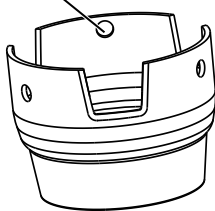

Figure 1
1. Reinstall the OEM center louver into the dash opening (See Photo 1, below). Install the (2) louver adapters over the OEM studs (See Photo 2, below).
2. Install the center louver hose adapter bracket over the studs and secure it using (2) 10-24 nuts with star washers (See Photos 3, 4 and 5 below).
3. Temporarily remove the driver- and passenger-side louvers from the dash to ease the installation of the louver hose adapters by removing (3) screws per louver (See Photo 6, below).
4. The hose adapter has (3) holes, locate the hole that is closer to the edge of the hose adapter and install onto the top of the OEM louver (See Figure 1, and Photos 7 and 8, below).